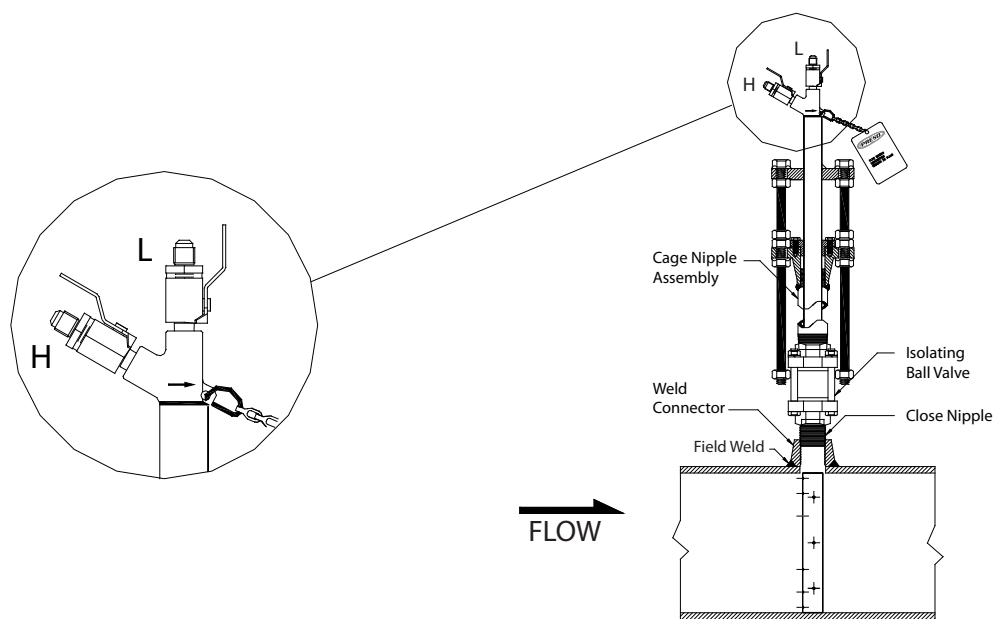

Figure 4: Sensor alignment
7. Install the cage nipple assembly and packing gland with the threaded rods assembly by threading it into the isolating ball valve. Align the arrow on the sensor head with the direction of flow. See *Figure 4*.